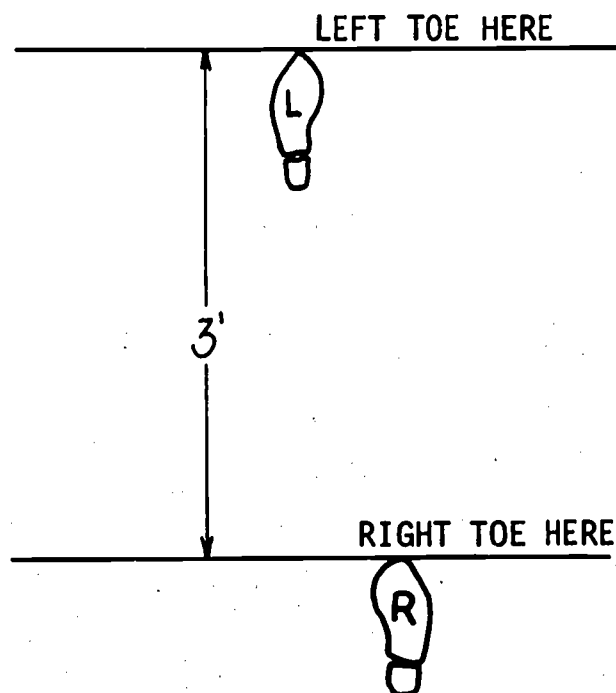

Fig. 75-1. A 3' Pace
2. Place your right toe on one line and left toe on the other. This is a 3' pace. See Fig. 75-1.